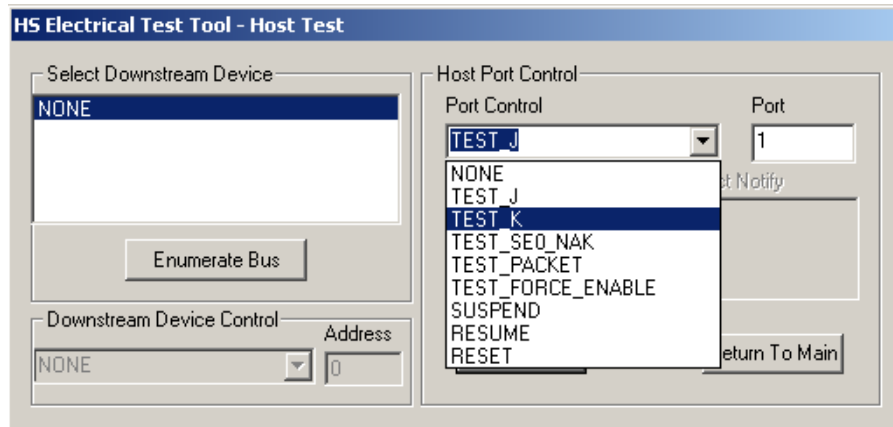

Figure 30. Host Port TEST_K
6. On the Host Test menu, select TEST_K from the Port Control drop down menu. (Figure 30)